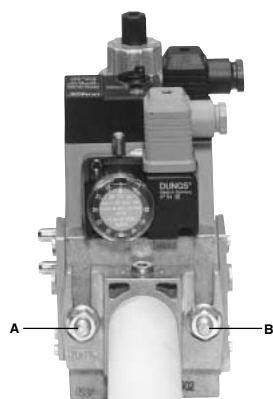
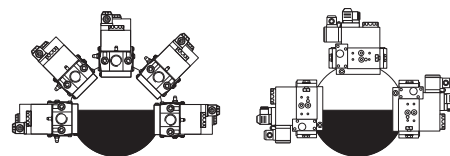

Fig. 5
Fig. 8
3. tighten screws A, B, C and D (Fig. 5 - Fig. 6), according to the mounting positions (Fig. 8);
1. Loosen screws A and B **do not** unscrew (Fig. 5 - Fig. 6).
2. unscrew screws C and D (Fig. 5 - Fig. 6).